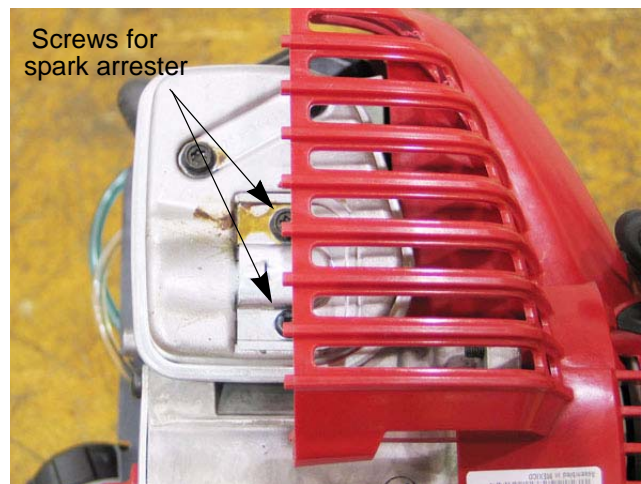

Figure 2.8
2. Remove the two screws holding the spark arrestor cover in place with a T-25 driver. See Figure 2.8.